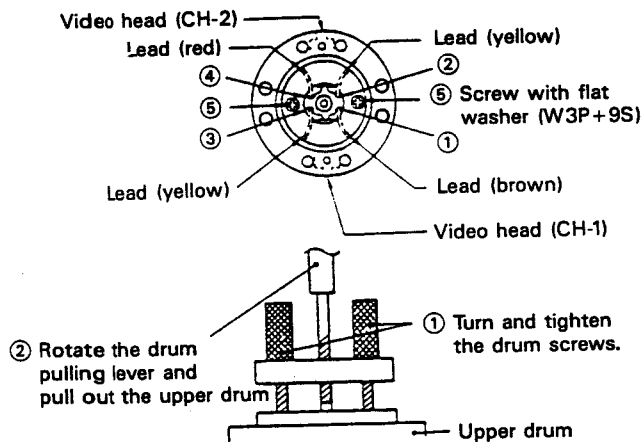

Figure 1-24.
- **Replacement (See Fig. 1-24)**
1. Unsolder the leads ① to ④ from the video head and remove them.
2. Remove the two screws ⑤ (brass screws with washers (W3P+9S)) using a phillips screwdriver.
3. Withdraw the upper drum by pulling it up with the upper drum replacement jig. (Refer to Fig. 1-24).
1. Set the new drum for replacement, as shown in Fig. 1-24, and position the leads properly.